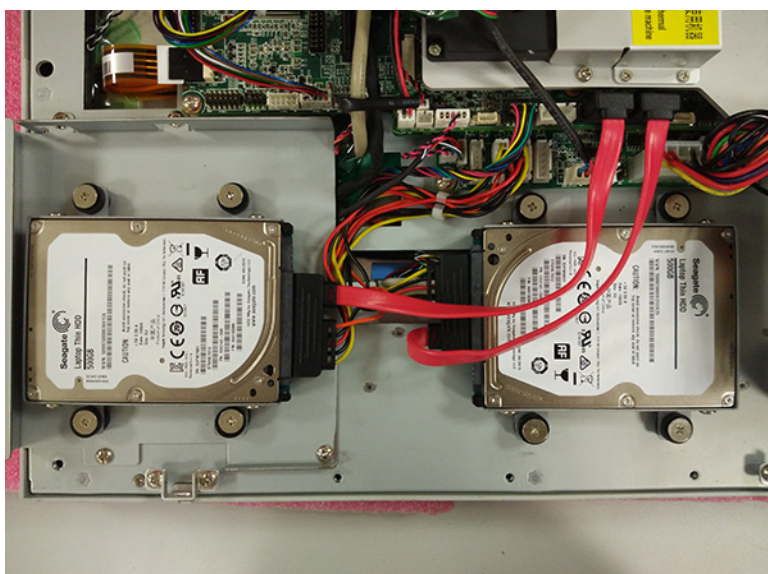

Figure 2.23
5. Complete the installation of HDD. (See Fig 2.23)